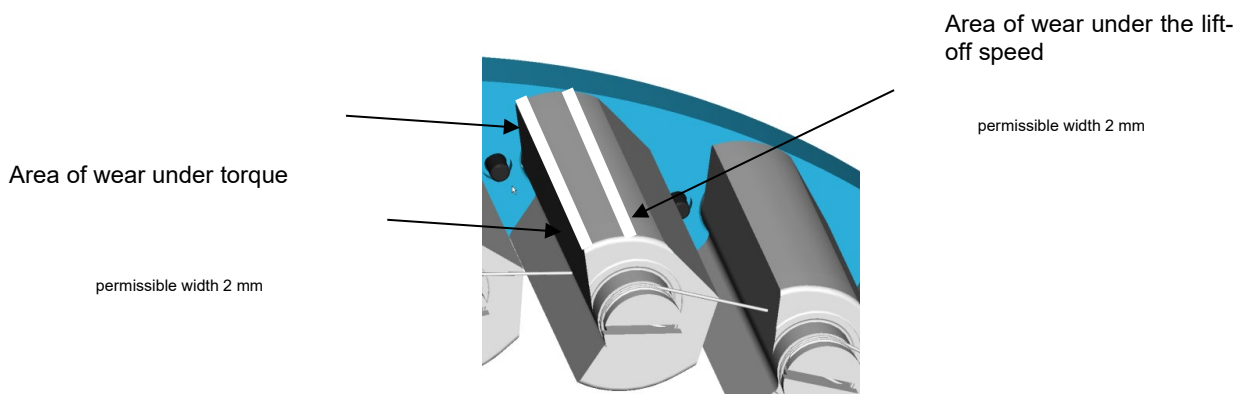

Figure 6: wear zones
- Pre-clean the outer race (1), inner race (Item 2) and cage (Item 8) with a petroleum-based industrial cleaning agent and degrease with an acetone-based cleaning agent.
- Maximum width of the wear facet on the clamp bodies (see Figure 6)